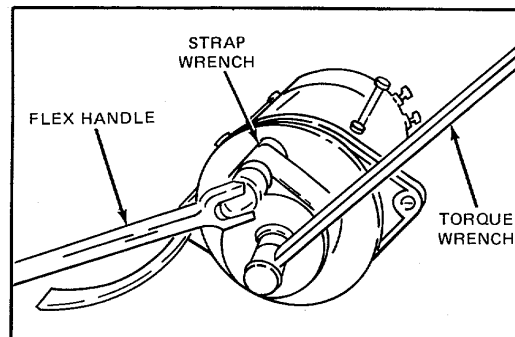

Figure 2. Tighten Alternator Pulley Retaining Nut
1. Install the drive pulley, if it was removed. Tighten the pulley retaining nut to 50-60 lb ft (68-81 Nm) torque (Fig. 2).